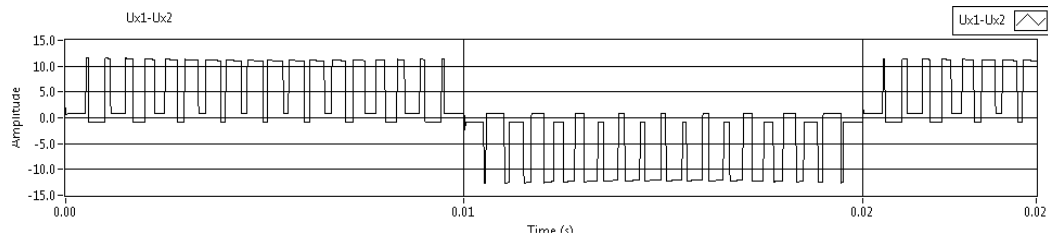

Figure 23 Measured output voltage $U_{op}-U_{on}$
18. Confirm correct switching is obtain in the output voltage, U_{x1} - U_{x2} . Compare with Figure 23.